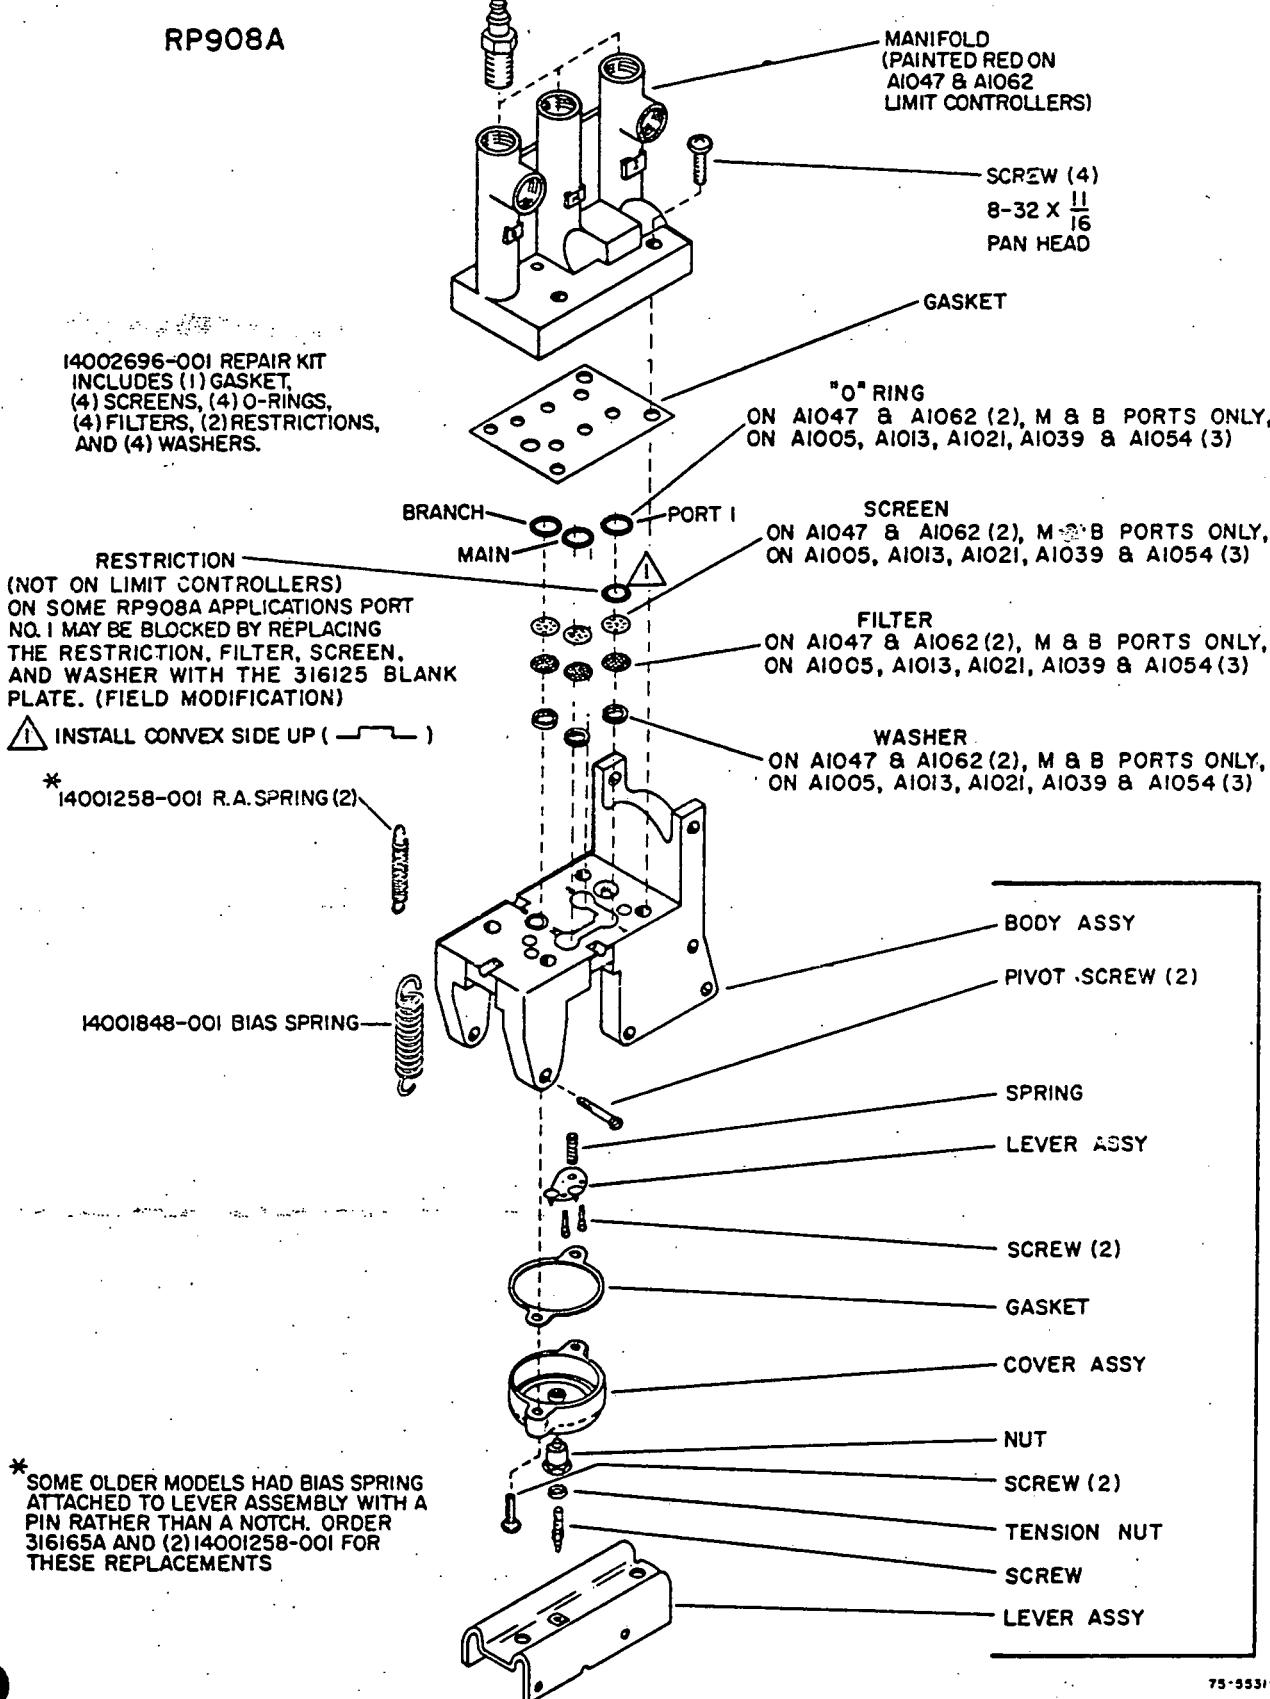
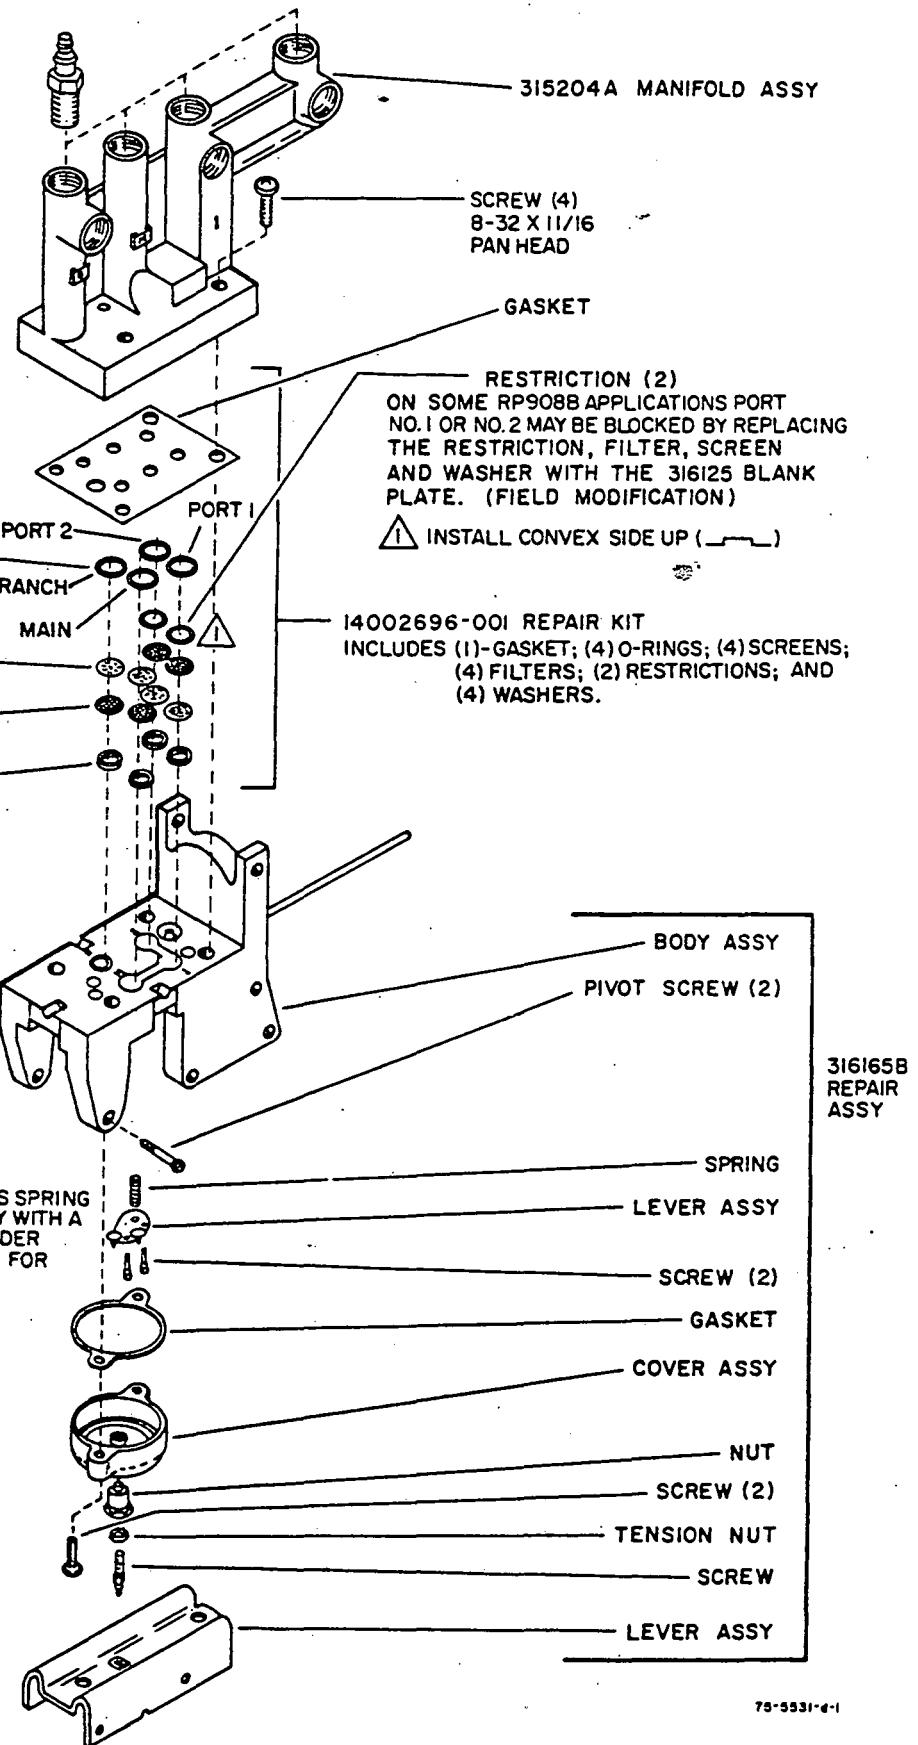

Fig. 10. Detail of RP908A Manifold and Body Assembly.
Fig. 12. Detail of RP908B Manifold and Body Assembly.
7. With the new parts from the kit, install the washers, filters, screens and restriction(s). See Figure 10 for RP908A and Figure 12 for the RP908B.
SEE FIGS. 10 THRU 13 FOR